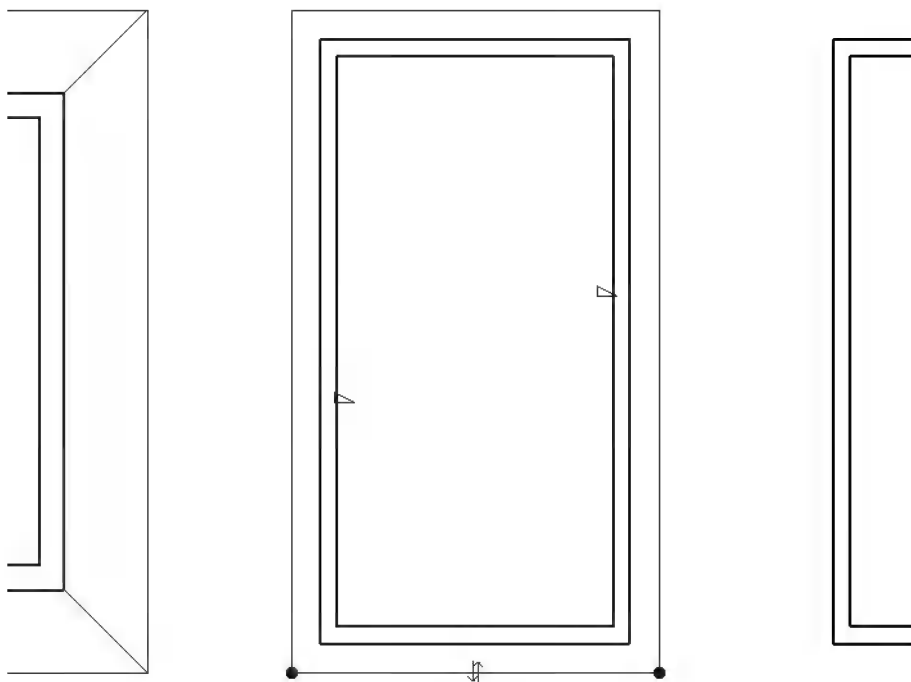

FIGURE 6-3.5 Gable – plan view
21. Select the remaining two walls (Figure 6-3.5).